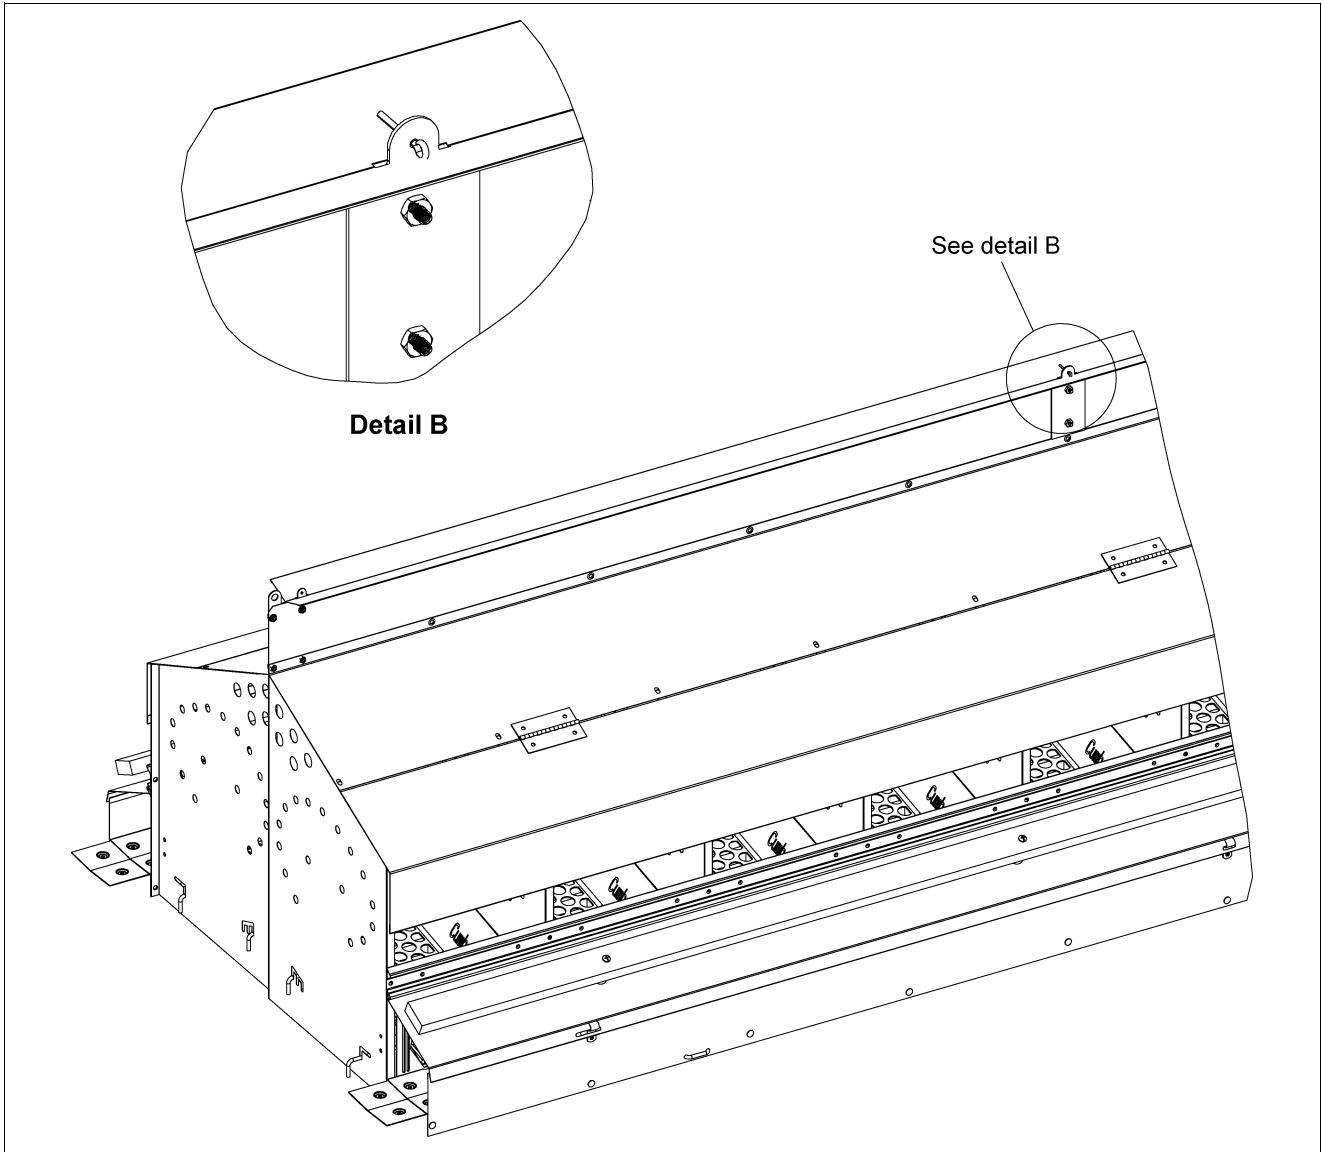

Figure 4R *Flipper Installation*
18. Place a C5000106 flipper onto tabs of the flipper brackets as shown. Secure the flippers using three (3) S-4322 3/32" x 1" cotter pins as shown in *Figure 4R*. Expand cotter pin. Flipper should freely rotate back and forth to keep birds off the top of the nest.